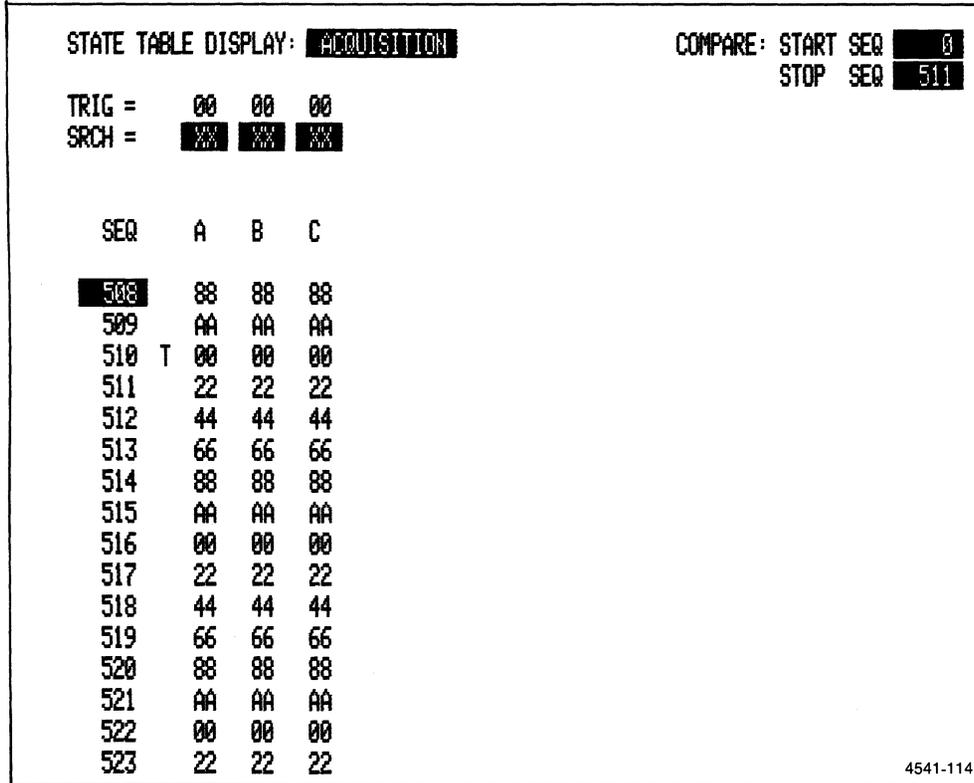

Figure 5-14. State Table display of Functional Test 9.
4. Press START PAT GEN followed by START ACQ. Verify that the test triggers, and that the display matches Figure 5-14.